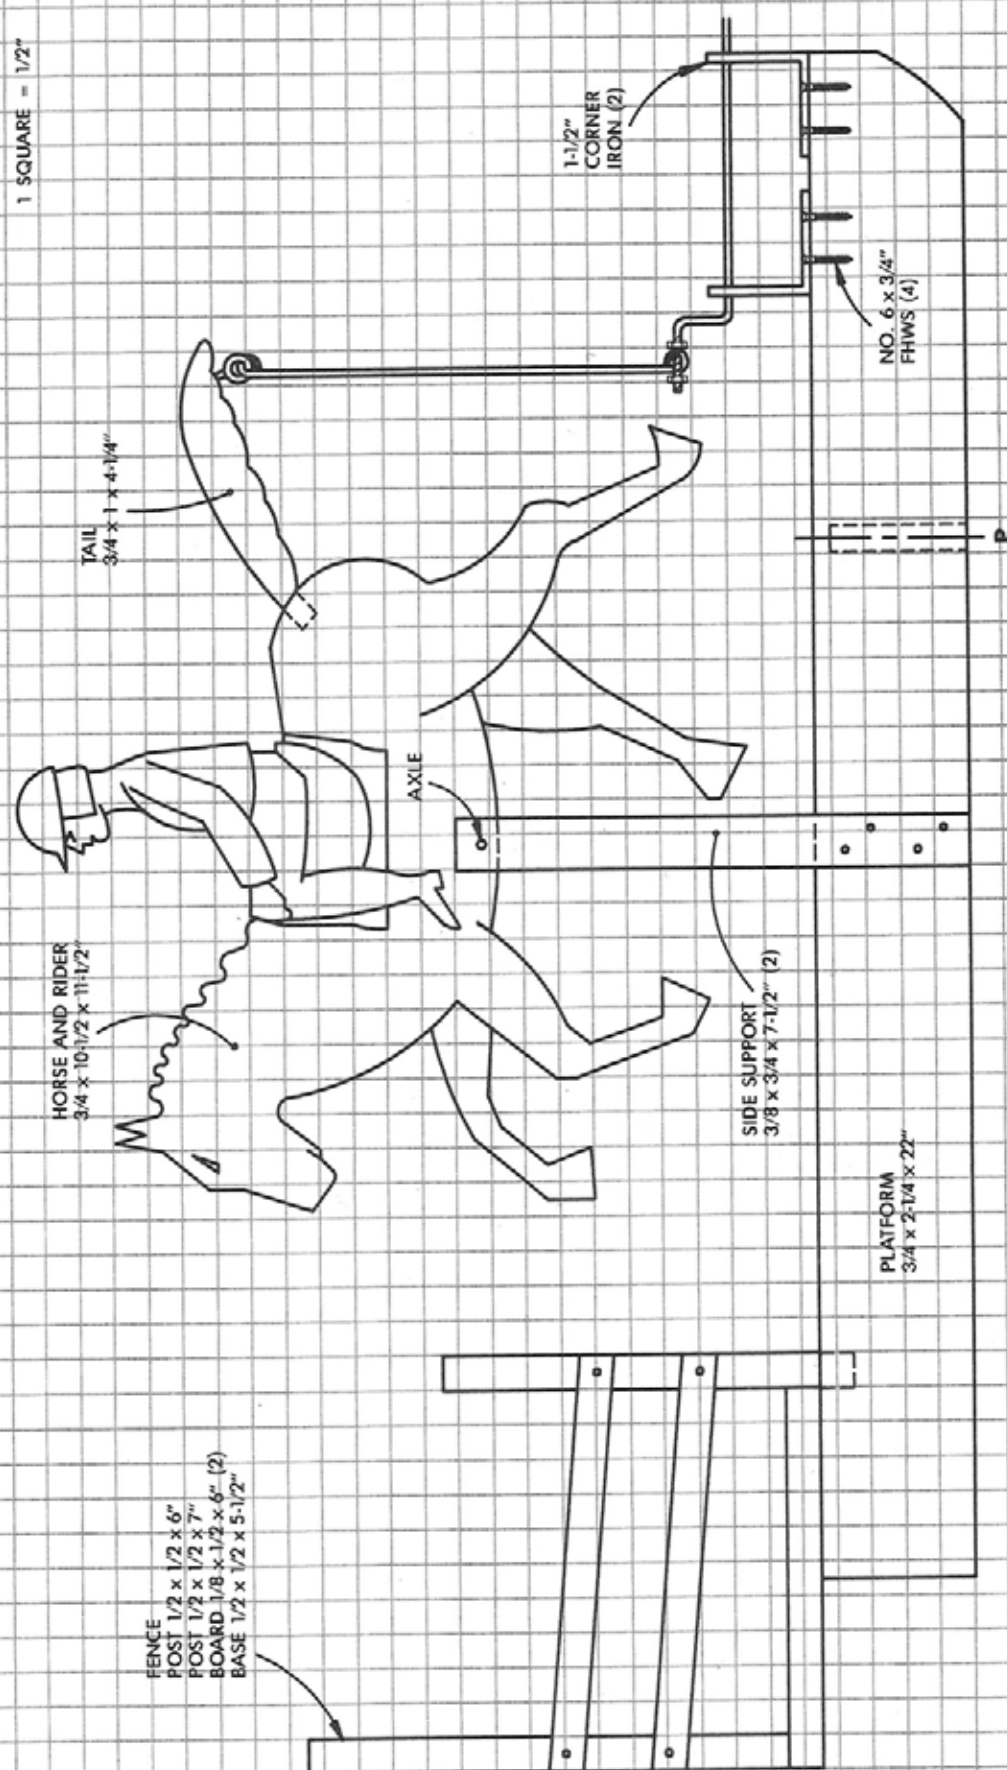

Figure 4-34. Plan for Equestrian whirligig.
1. Cut out the platform and mark where components will be located (Fig. 4-34). Drill a 3/8 in. hole for the pivot socket 7 in. from the front of the platform. Drill a 1/2 in. hole for the tail post 19 in. from the front. Attach the corner irons.